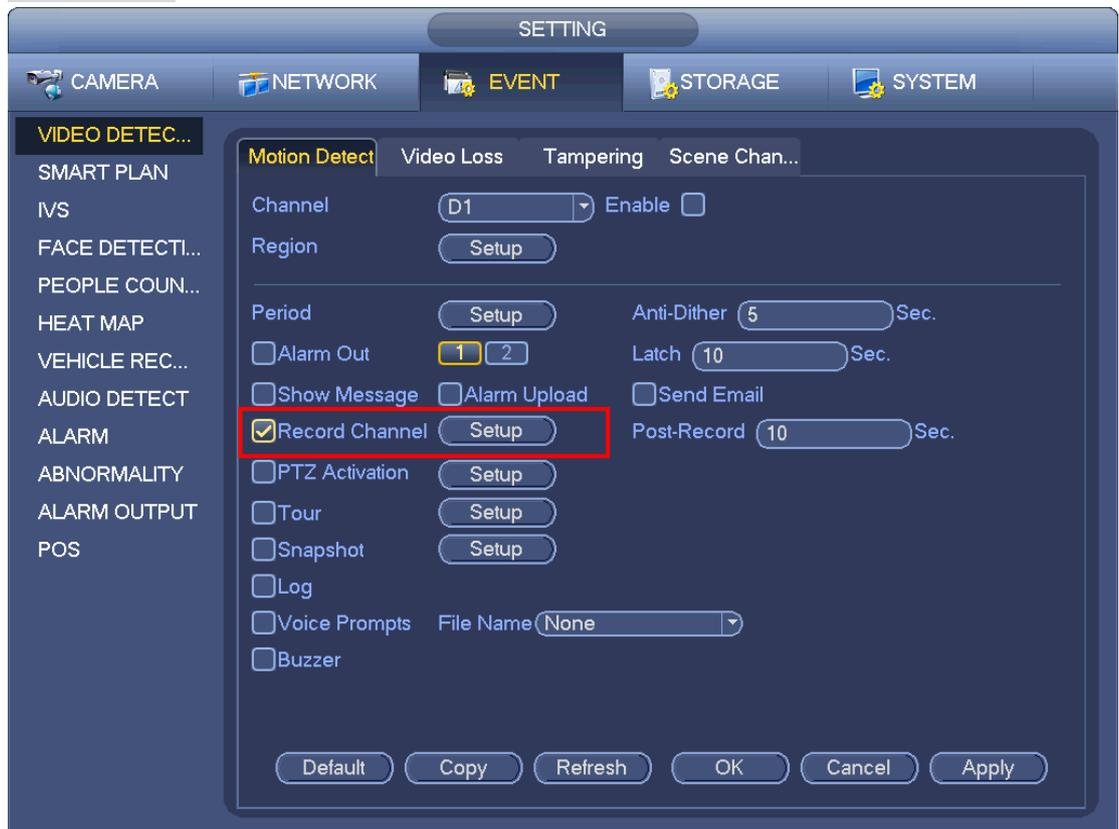

Figure 2-31
- When the record type is MD (motion detect), alarm, MD&Alarm, IVS and POS, please enable the channel record function when corresponding alarm occurs. For example, when the alarm type is MD, from main menu->Setting->Event->Video Detect->Motion Detect, please select the record channel and enable record function. See Figure 2-31.